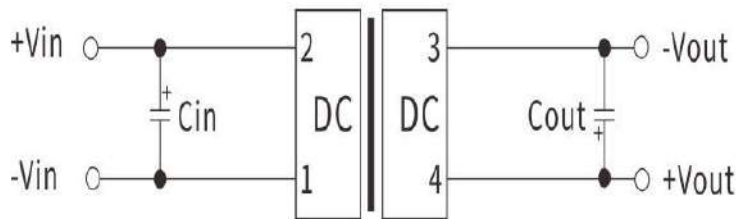

Figure 1
1. If it is required to further reduce the input and output ripple, a capacitor filtering network can be connected to the input and output ends, the applied circuit as showed on figure 1. However, it should be careful to select a suitable filter capacitor. If the capacitance is too large, it may cause start-up problems. For each output, under the conditions of ensuring safe and reliable operation.
2. One recommended circuit: For applications where ripple and noise requirements are normal, a filter capacitor can be connected in parallel at the input and output ends. The external circuit is shown in the following figure1 with the recommended value details of the filter capacitor. Output load requirements: Try to avoid no-load use. When the actual power consumption of the load is less than 10% of the rated output power of the module or there is no-load phenomenon, it is recommended that a dummy load be connected to the output end. The dummy load (resistance) can be calculated by 5~10% of the rated power of the module, resistance value =  $U_{out} / (1W * 10\%)$ .